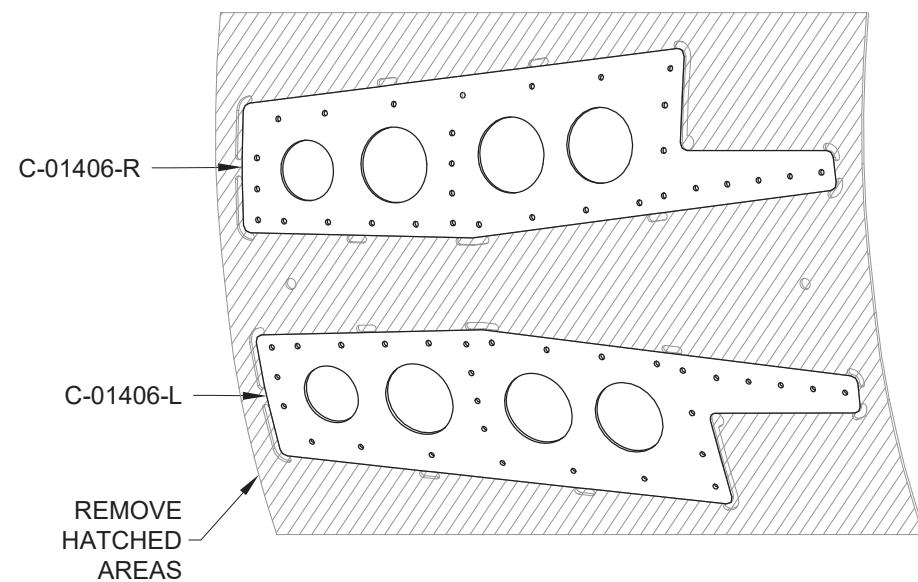

FIGURE 1: SEPARATE FORWARD CANOPY RAILS
Step 1: Separate the C-01406 Forward Canopy Rails as shown in Figure 1.